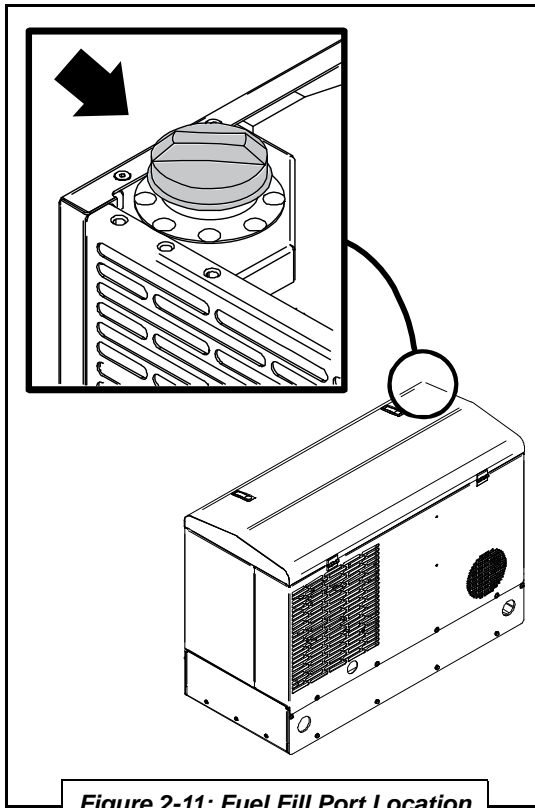

Figure 2-11: Fuel Fill Port Location
The fuel tank provided in the 300 Series Power System has a capacity of twelve (12) gallons (45.4 L), and is accessed via a conveniently-located port for ease of refill. The filler cap is accessed on the generator side of the package from the left front corner, under the hood (**Figure 2-11**). The fuel system has a fuel supply and return connection on the top of the fuel tank. Fuel level can be checked on the fuel level gauge that is located on